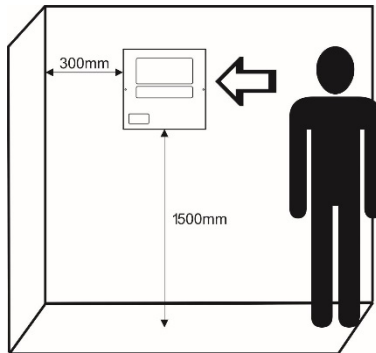

Figure 2
- The panel must be installed in a clean dry place and must not be subject to impacts or vibrations (Figure 2). It must be situated far away from heating appliances. The temperature must be  $-5^{\circ}\text{C}$  to  $+40^{\circ}\text{C}$ . The panel is not waterproof!